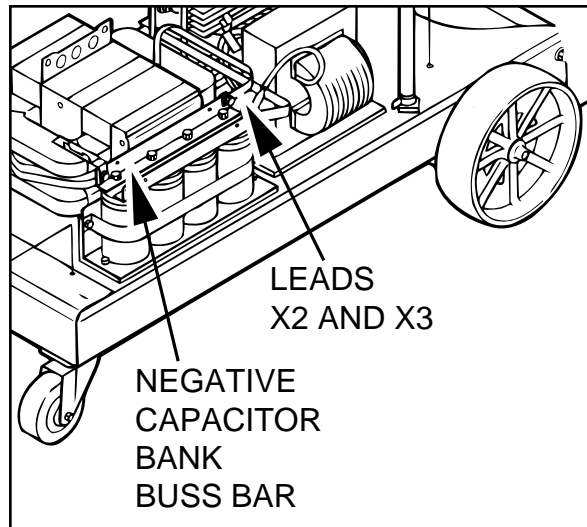

FIGURE F.6 - Location of Leads X2 and X3.
4. Disconnect leads X2 and X3 from the negative capacitor bank using a fi" open end wrench. See Figure F. 6.